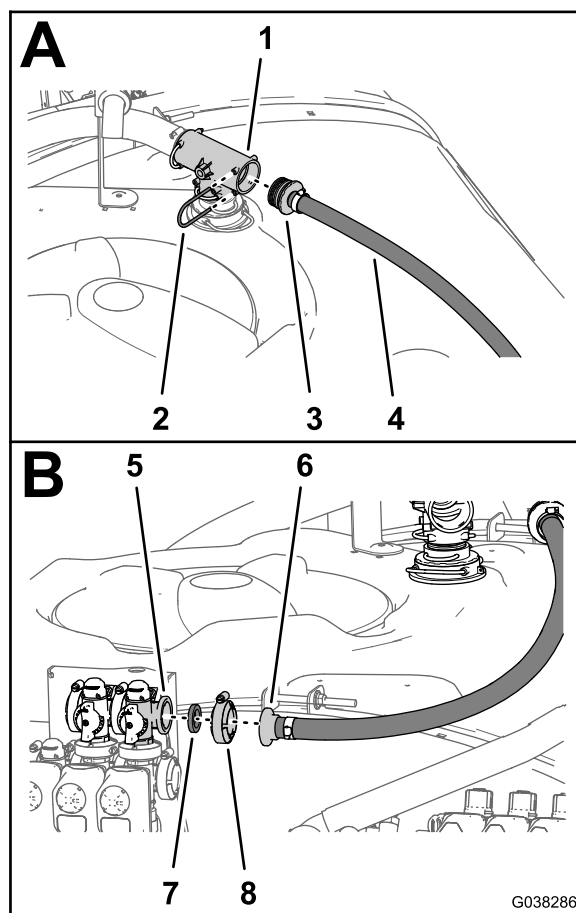

Figure 68
1. Assemble the straight barbed fitting of the bypass hose—2.5 x 110 cm (1 x 43-1/2 inches) into the rear port of the T-fitting at the top of the sprayer tank (Figure 68).
4. Align the flange of the straight barbed fitting and gasket—25 x 35 mm (1 x 1-3/8 inches) with the flange of the bypass valve (Figure 68).